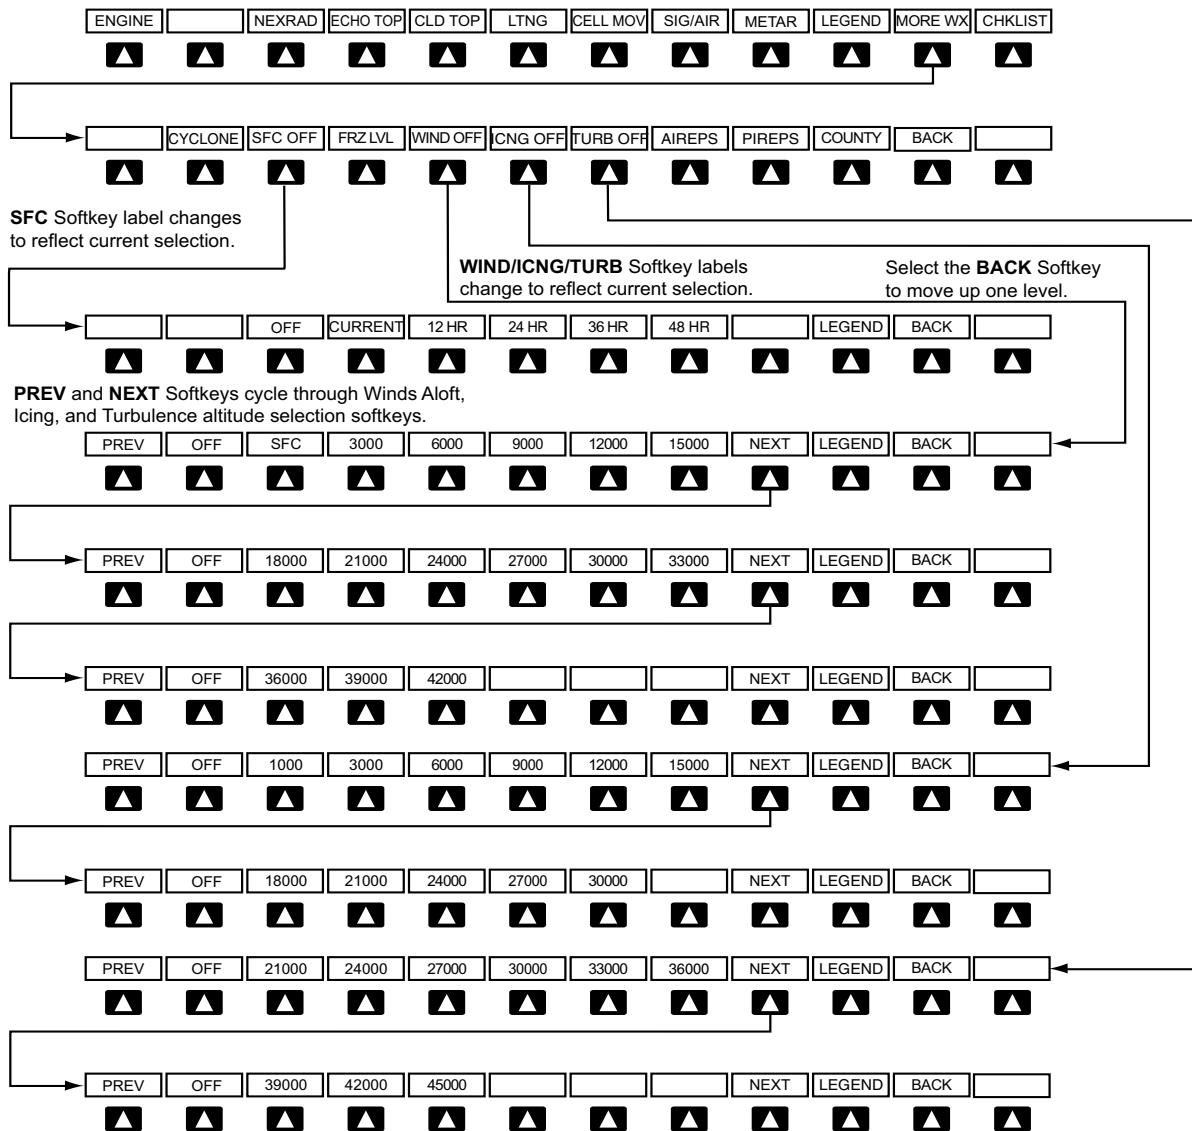

Figure 6-3 XM Weather Data Link Page Product Softkeys
Softkeys control the display of weather information on most MFD pages and the PFD Inset Map (Figure 6-3) shows the weather product softkeys for the Weather Data Link (XM) Page). When a weather product is selected for display, the corresponding softkey label changes to gray to indicate the product is enabled.